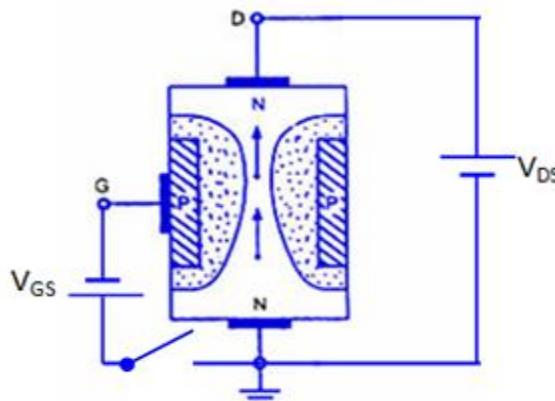

Fig. 4.4 Operation of JFET when  $V_{GS}=0$
- When a voltage  $V_{DS}$  is applied between drain and source terminals and voltage on the gate is zero as shown in fig.4.4, then two pn junctions at the sides of the bar establish depletion layers.
- When a reverse voltage  $V_{GS}$  is applied between gate and source terminals, then width of depletion layer is increased which is shown in fig. 4.4.